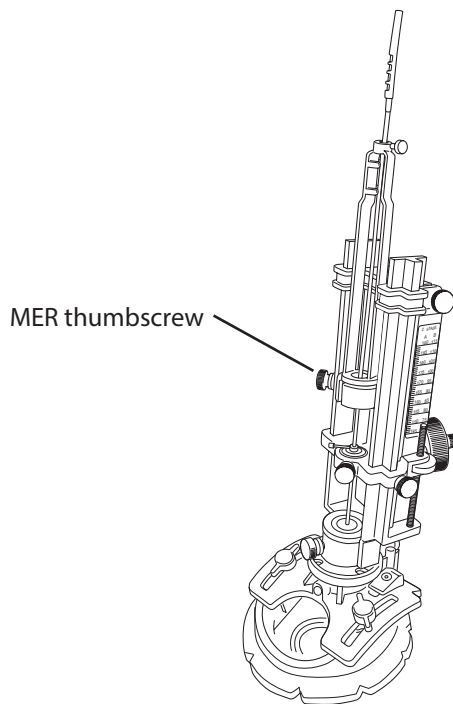

Figure 27. The lead holder and the lead.
3. Remove the measurement tube and insert the lead and the lead holder assembly into the drive (Figure 27).
5. Secure the lead holder with the MER thumbscrew (Figure 27).